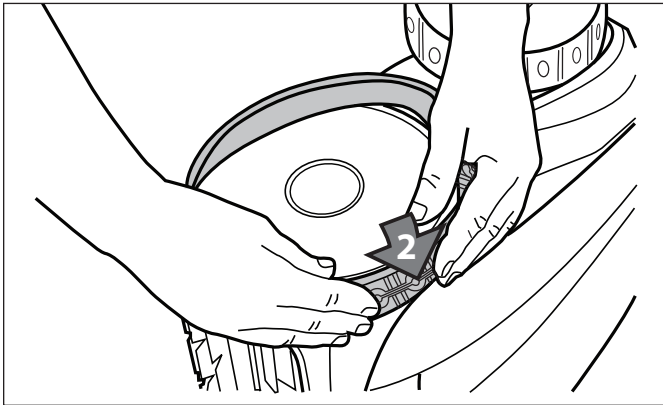

Figure 34. Start on One Side of the Tire
4. Push one side of the tire on to the wheel and fit the rib of the tire in the groove of the wheel (Figure 34).